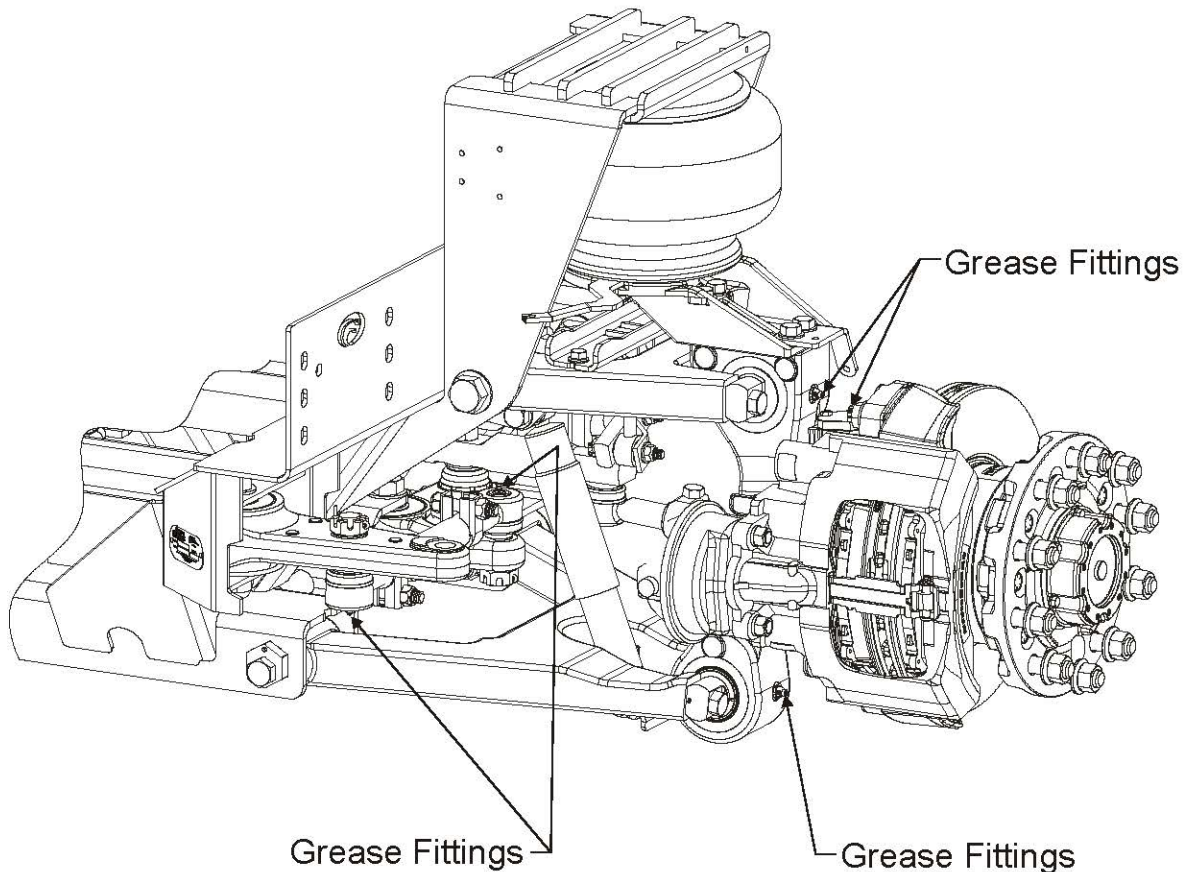

Figure 4 – Location of lubrication fittings. Note: Left side only shown.
2. Apply lubricant to grease fitting until new lubricant discharges from the dust boot (**Figure 4**).